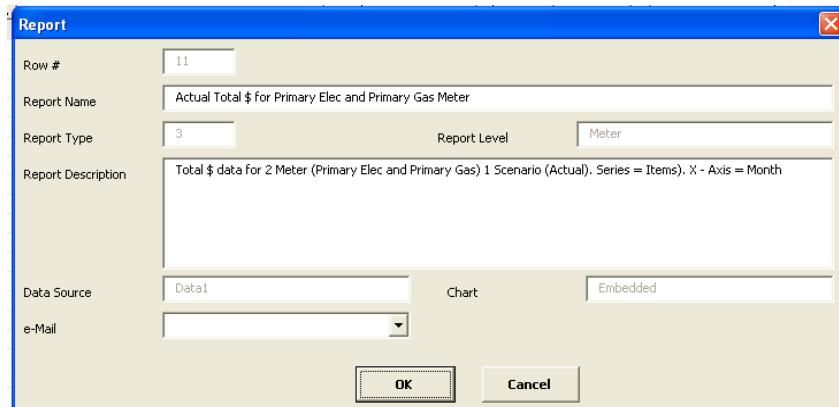

Figure 26: Report Detail Form
- b. Double click on any report in your list to open the Report Detail form. Figure 26 shows this form.